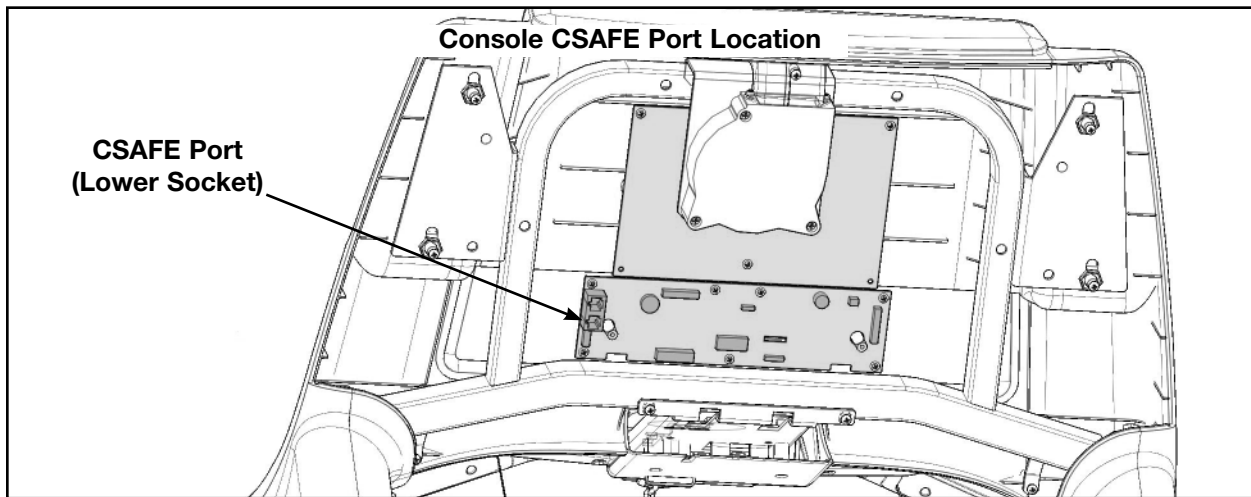

Figure 4
**NOTE:** The console CSAFE port inside the console contains the full implementation, with both network communications and a standard CSAFE voltage (minimum 8.0 VDC) power source. The base CSAFE port is accessible under the base of the treadmill and is for network communications only and does not contain the DC power source. See Figures 4 and 5.